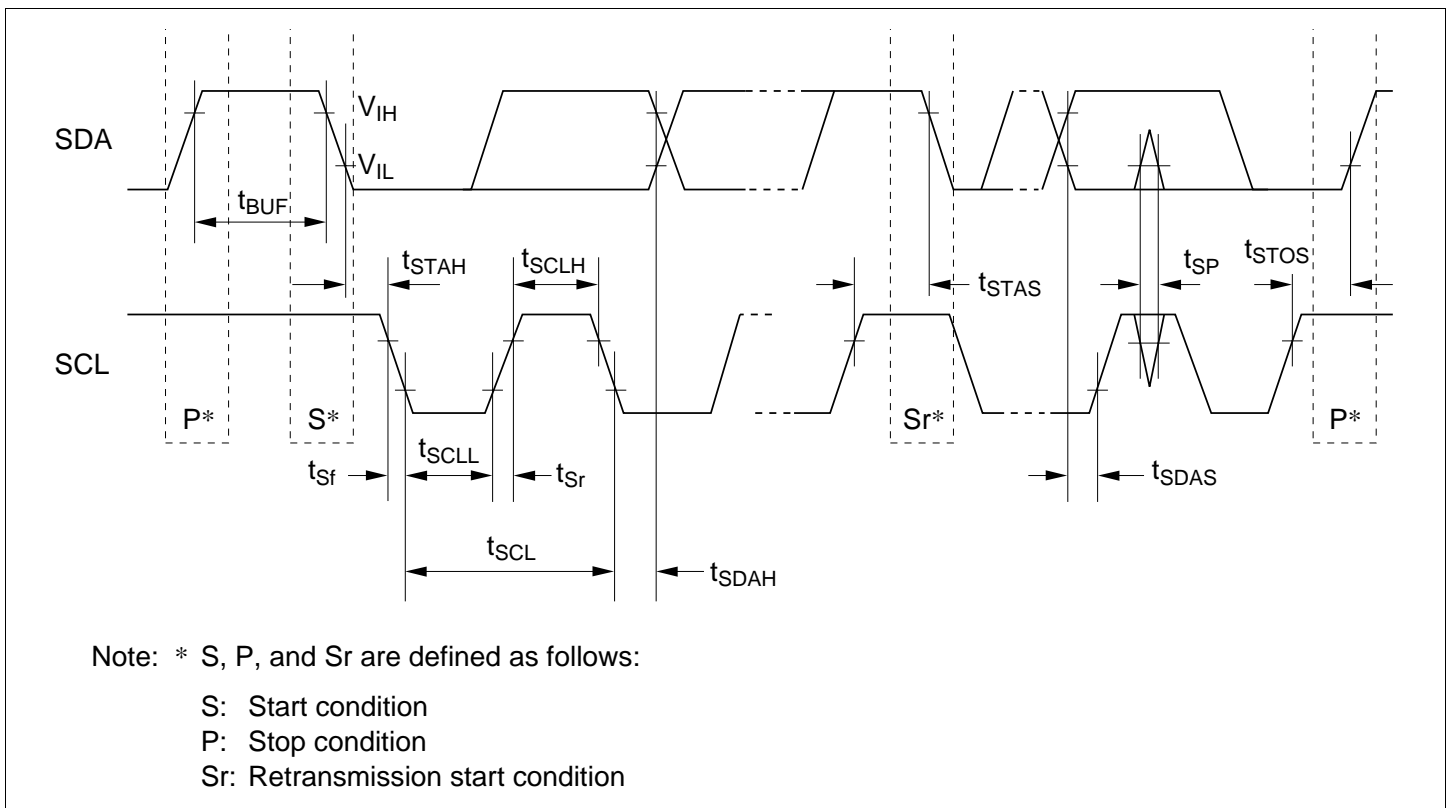

Figure 23.24 I²C Interface Input/Output Timing
23.5.9 I ² C Bus Timing (Option) (H8/3337 Series Only)	Figure 23.24